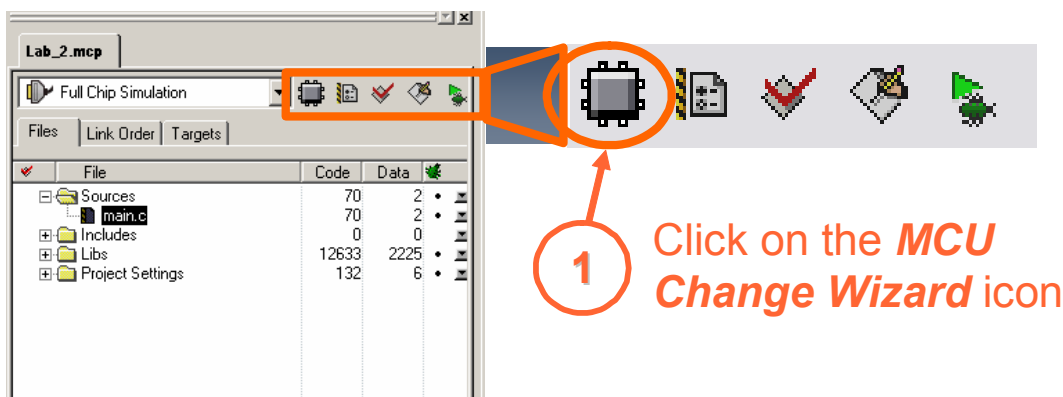

Figure 8. How to Change the S08 Core to ColdFire V1 Core? First step
1. Click on the MCU Change Wizard icon Figure 8.